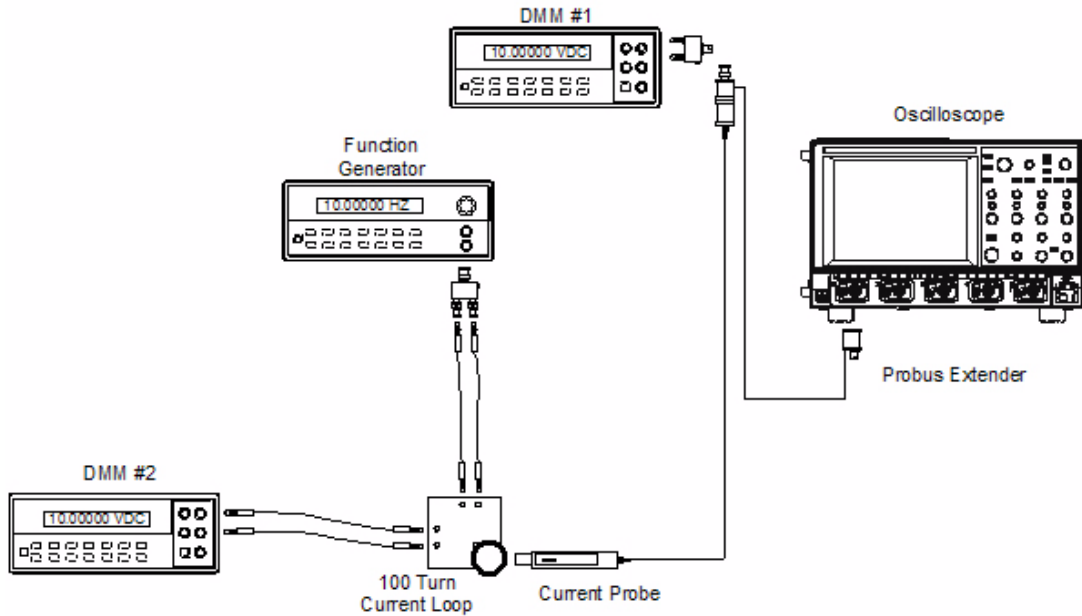

Figure 6-1. LF Accuracy Adjustment Set Up
3. Using banana patch cords, connect the 'V Source' and 'V Return' terminals of the 100 Turn Calibration Loop, to the output of the Function Generator using the BNC to Dual Banana Plug Adapter output. (Refer to Figure 6-1)